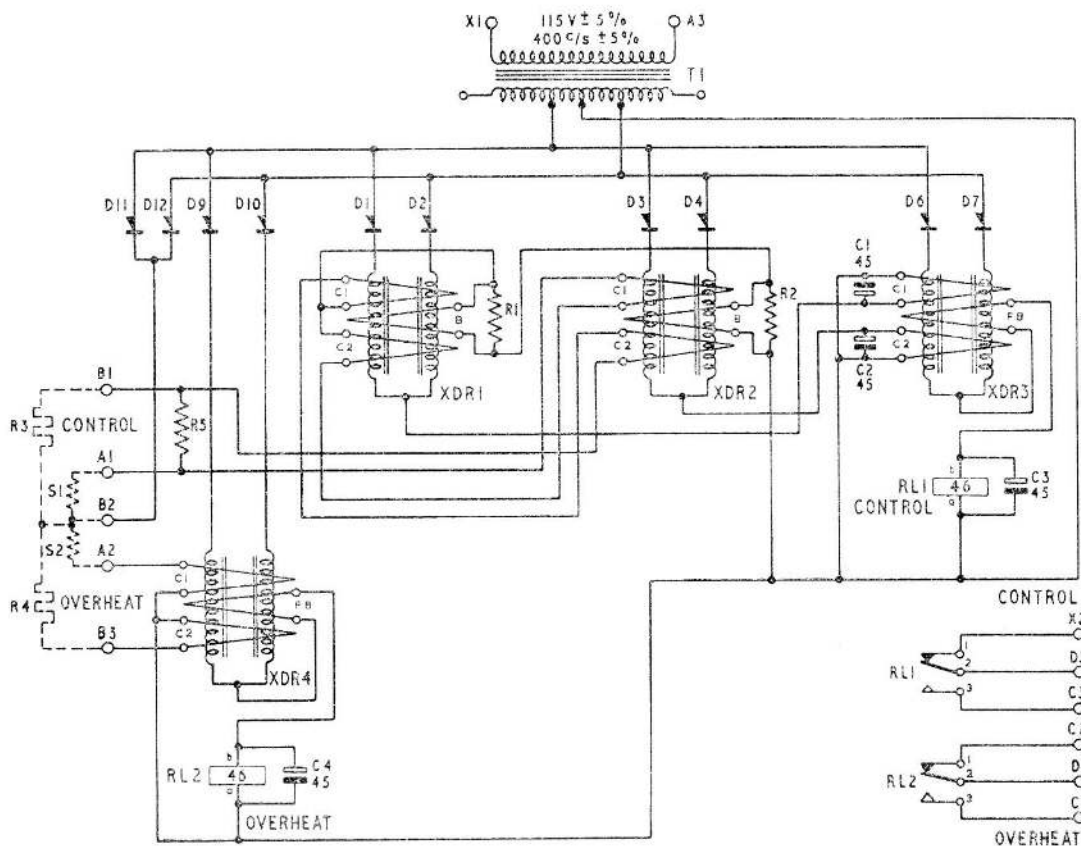

Fig. 5. Circuit diagram for Type 4, Mk. 1 and 4 controllers
7. The control circuit (*fig. 5*) consists of sensing element S1, fixed resistors R3, R5, R1 and R2, transducers XDR1, XDR2 and XDR3, capacitors C1, C2 and C3, and relay RL1.
13. The overheat circuit (*fig. 5*) consists of a sensing element S2, a fixed resistor R4, transducer XDR4, capacitor C4, rectifiers D9 and D10, and relay RL2. The overheat relay is provided with single change-over contacts brought out to terminals C1, C2 and D1. The contacts are isolated from all other circuitry. Normally the "make" contacts C2 and D1 are in series with the power contactor coil; thus when the control relay is energized and the overheat relay is de-energized, power is applied to the windscreen. Relay RL2 is identical to RL1 in all respects and is controlled by transducer XDR4, which has bi-stable operation as in XDR3.